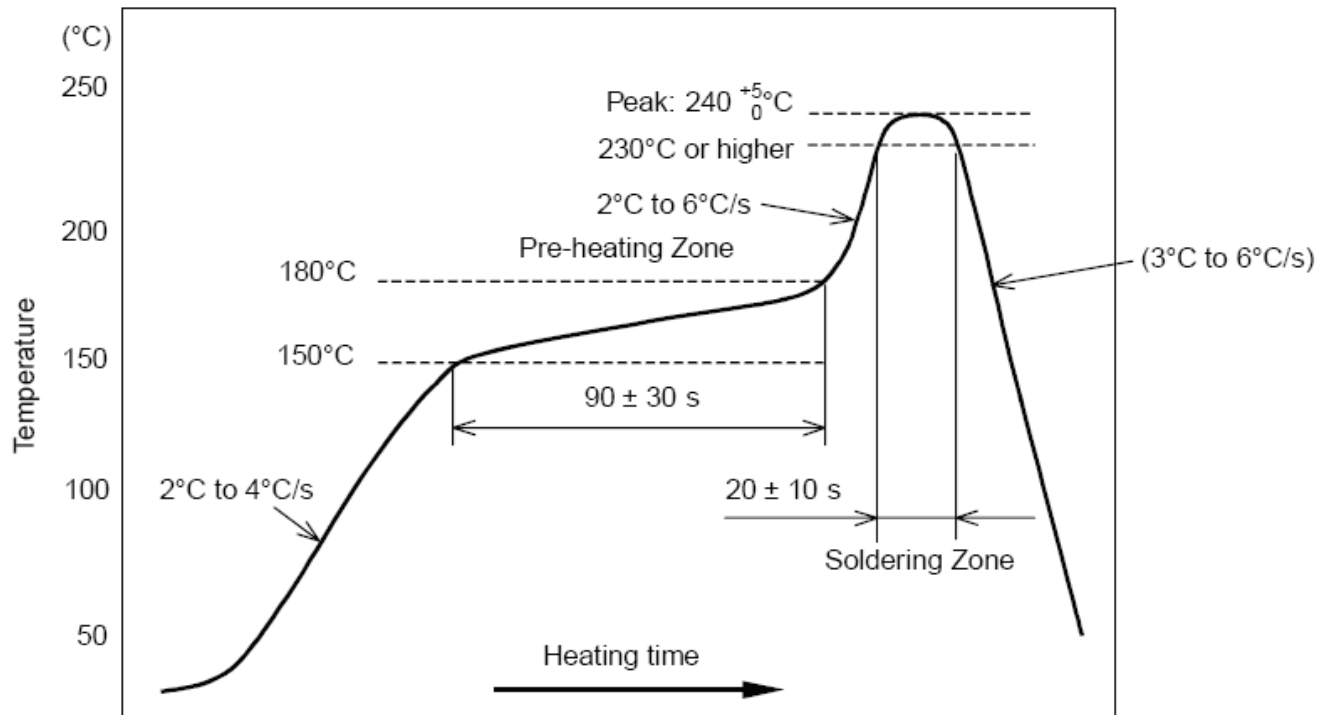

图 11-1. Temperature Profile for Evaluation of Solder Heat Resistance of a Component (at Solder Joint)
- Temperature measurement: Thermocouple $d = 0.1 \text{ mm}$ to 0.2 mm CA (K) or CC (T) at soldering portion or equivalent method
- Allowable reflow soldering times: 2 times based on the reflow soldering profile (see 图 11-1)
- Temperature profile: Reflow soldering will be done according to the temperature profile (see 图 11-1)